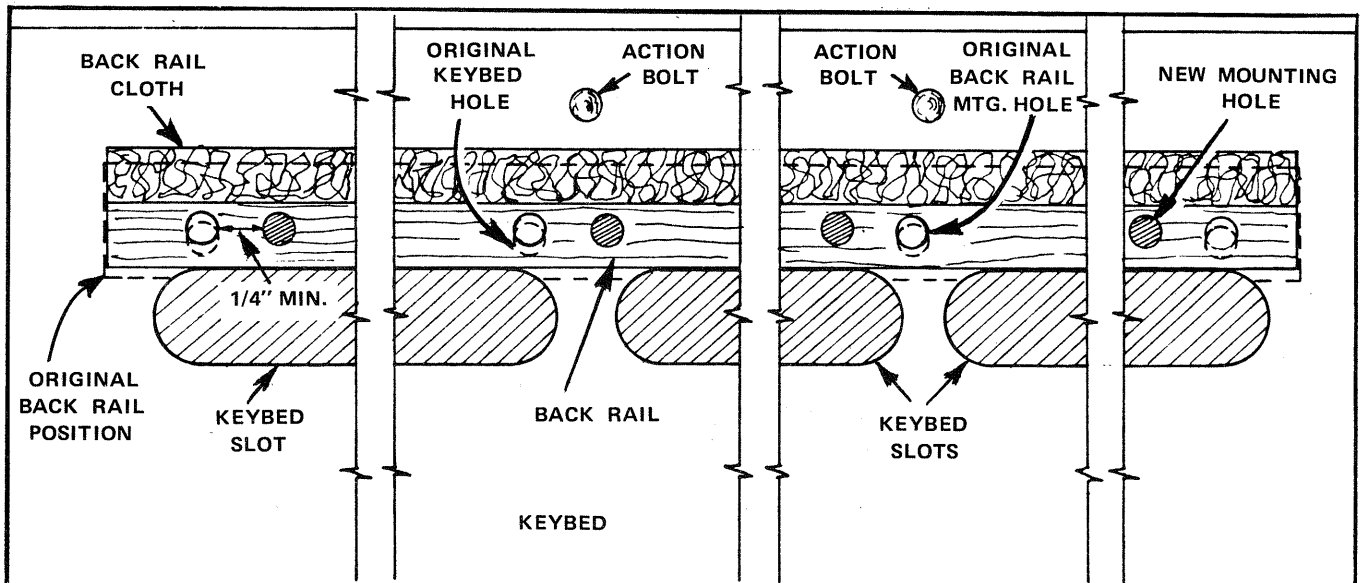

FIGURE 2-24 Drill new mounting holes in the Back Rail and Keybed.
2. If the Back Rail is placed near its original position and its mounting holes overlap (see FIGURE 2-24 below) or are within 1/4" of the original holes in the Keybed, you must drill new mounting holes in the Back Rail and Keybed and the new holes MUST be a minimum of 1/4" away from the original holes as indicated in FIGURE 2-24 below.